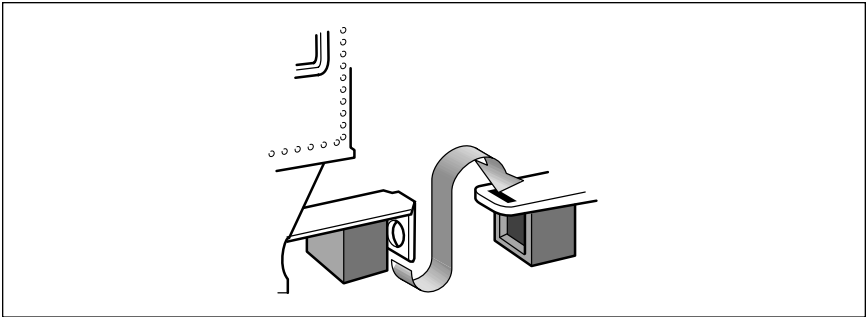

Figure 1. Drawbar connection
2. **Connect the drawbar between the locomotive and tender as illustrated in Figure 1.**